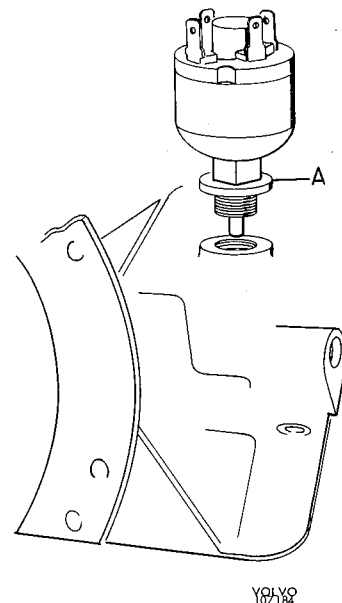

Fig. 4-68. Fitting starter inhibitor switch
2. Install a new gasket (A, Fig. 4-68) onto the contact. Screw in the contact and tighten it to a torque of 8–11 Nm (0.8–1.1 kpm=6–8 lbft) with spanner 2975. Connect up the electric cables.